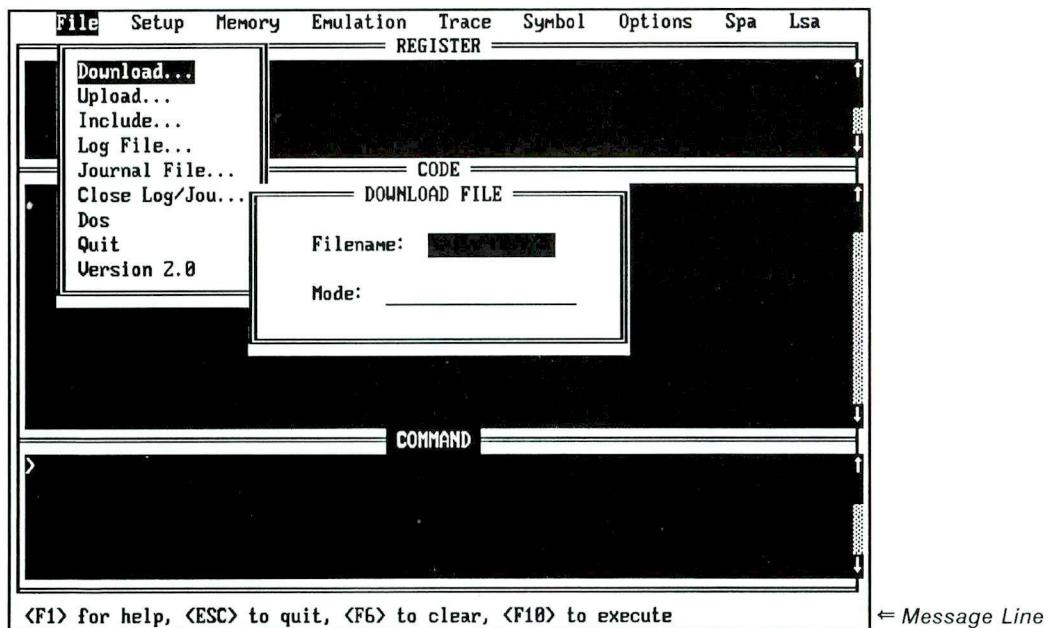

Figure 1-9 Dialog Box Message Line
The following keystrokes are defined in the dialog box Message Line (Figure 1-9):
c) Screen with dialog box and/or choice list on display (Figure 1-9):